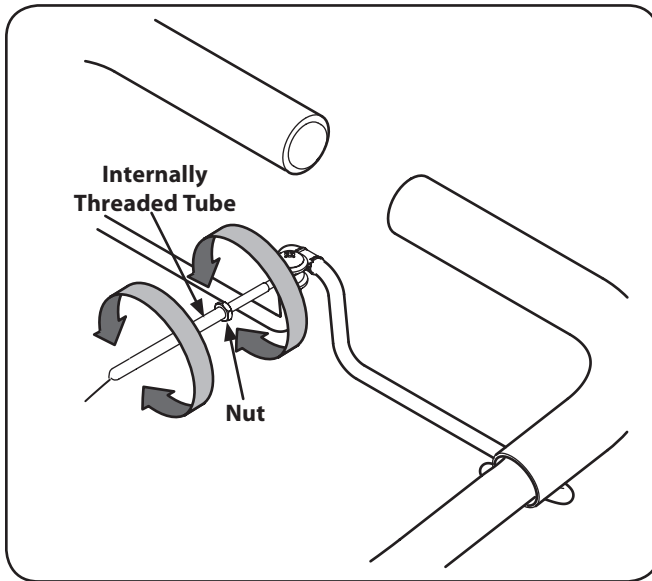

Figure 1-8
6. Carefully engage the clutch by lifting the clutch control bail against the handle. The wheels should spin. If the wheels do not spin with the tiller in forward, adjust by un-threading the tube at the end of the cable a few turns counter-clockwise, when standing in the operator's position. See Figure 1-8.